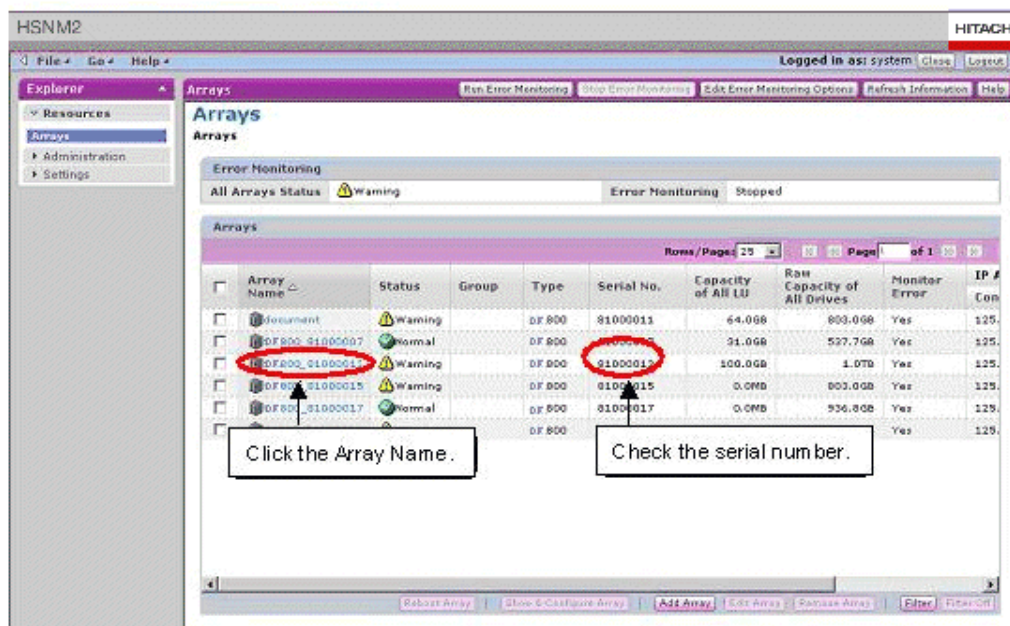
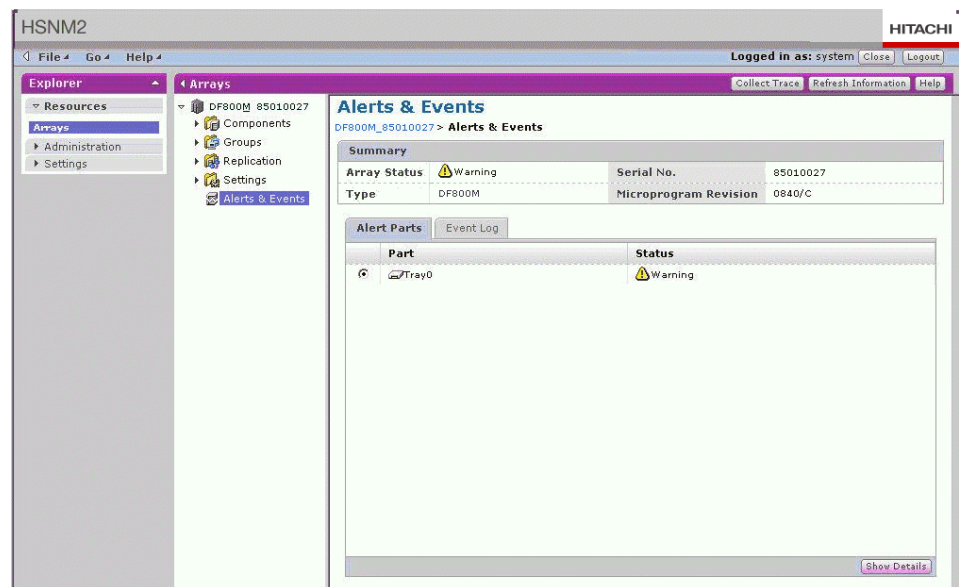

Figure 8-3: Locating the Array Name and Serial Number
Figure 8-4: Example of the Failure Parts List Tab
3. In the **Arrays** area, check the status and serial number of the array where the failure occurred (see Figure 8-3 on page 8-10).
4. If you received an email about the failure, or used SNMP to detect the failure, check that the hardware serial number in the email/SNMP matches the one on The AMS 2500 array (see Figure 8-3 on page 8-10).
6. From the Arrays area shown in Figure 8-3, click the name of the array. When the next screen appears, click either **Alerts & Events** in the Array List window or **Check for Errors** in the Common Array Tasks area. In the **Alert Parts** tab, check for the failed part, such as a disk drive (see Figure 8-4 on page 8-11).